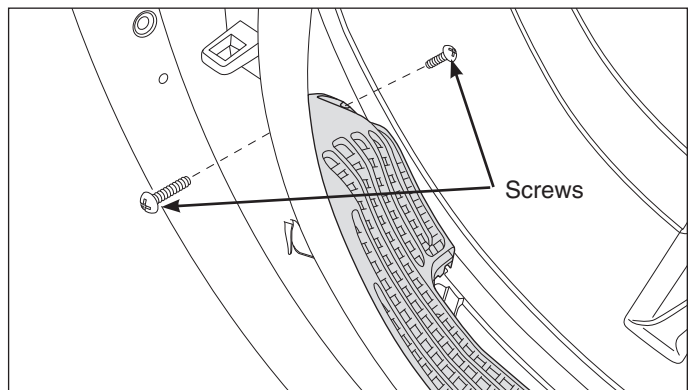

Figure 4-14.
2. Using a #2 square bit screwdriver, extract the two screws that secure the air duct cover to the front panel. (See Figure 4-14)
3. Using a #2 square bit screwdriver, extract the screw from each side of the air duct cover securing the air duct cover to the inside of the drying compartment. Pull air duct cover straight up until clear of the drying compartment. (See Figure 4-14)